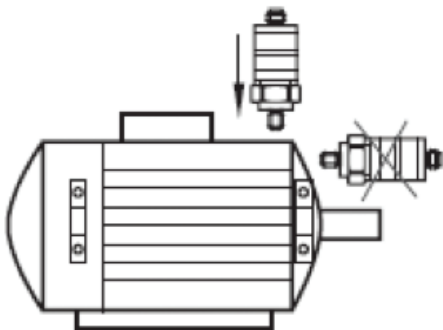

Figure 1
2. Ensure a safe vibration transmission and the signal direction is correct, and allow no elastic intermediate layers. See Figure 1.